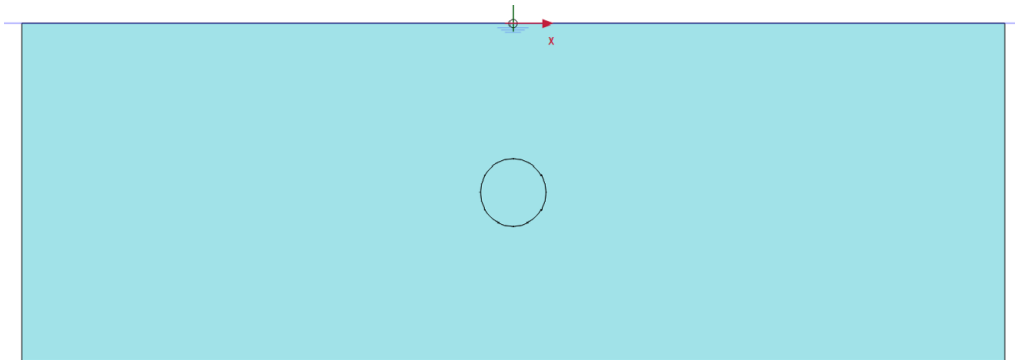

Figure 246: Initial phase
6. The model for initial phase is shown in Figure 246 (on page 277).